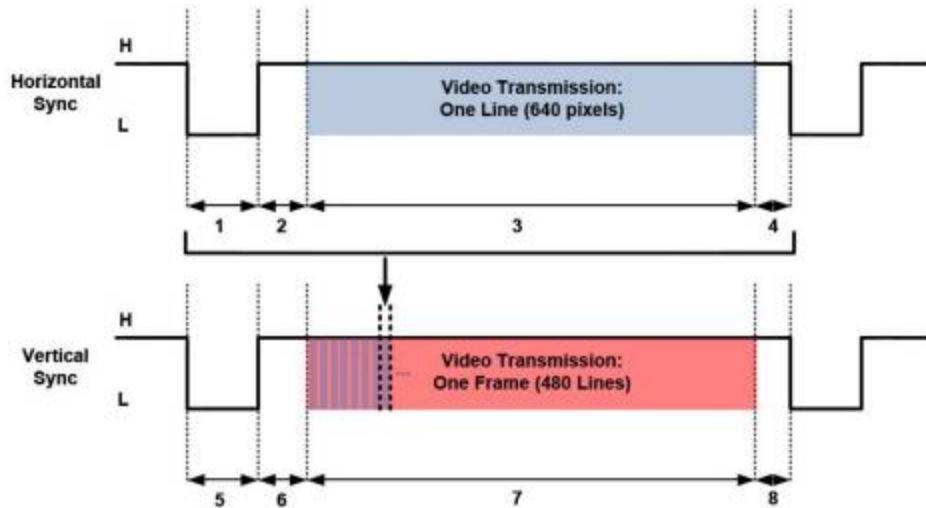

Figure 2: HS and VS.
HSync and VSync: HSync and VSync are necessary in order to tell the monitor to 'start' or 'stop' writing a line or frame. You will need to build the necessary digital blocks in order to correctly form these two signals. These blocks are basically counters with some modifications and are very easy to implement in Verilog. You can see the horizontal and vertical synchronization signals in Figure 2 with the corresponding timing in Table 1.
By observing Figure 2 and Table 1, we can understand that the HSync signal is used to synchronize one line in a frame, while VSync is used to synchronize each frame. Basically, when HSync or VSync is low, the monitor understands that it needs to switch from one line or frame to the next. Back and front porch are idle stages where the monitor is getting ready to write the next pixel or line. They also include 8 pixel and line over scan or 'border' pixel/lines outside our standard view of the monitor.
**IMPORTANT NOTE:** The video input signals (R, G, B) of a VGA monitor should be off (or black) during H. or V. Sync stages, and front/back porch stages. The video input signals should only be active during an active video transmission stage, which are highlighted in Figure 2.